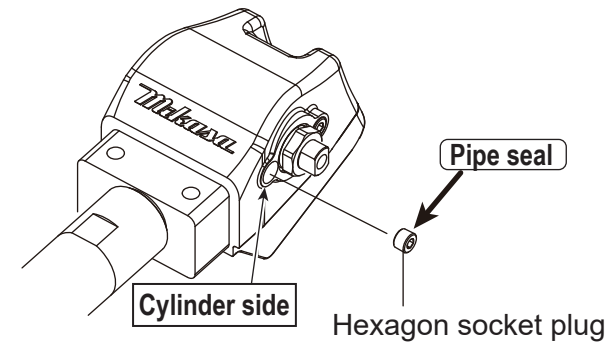

Fig.14
- f. Wrap the pipe seal around the hexagon socket plug, then fix it to the pump head. (Fig.14)